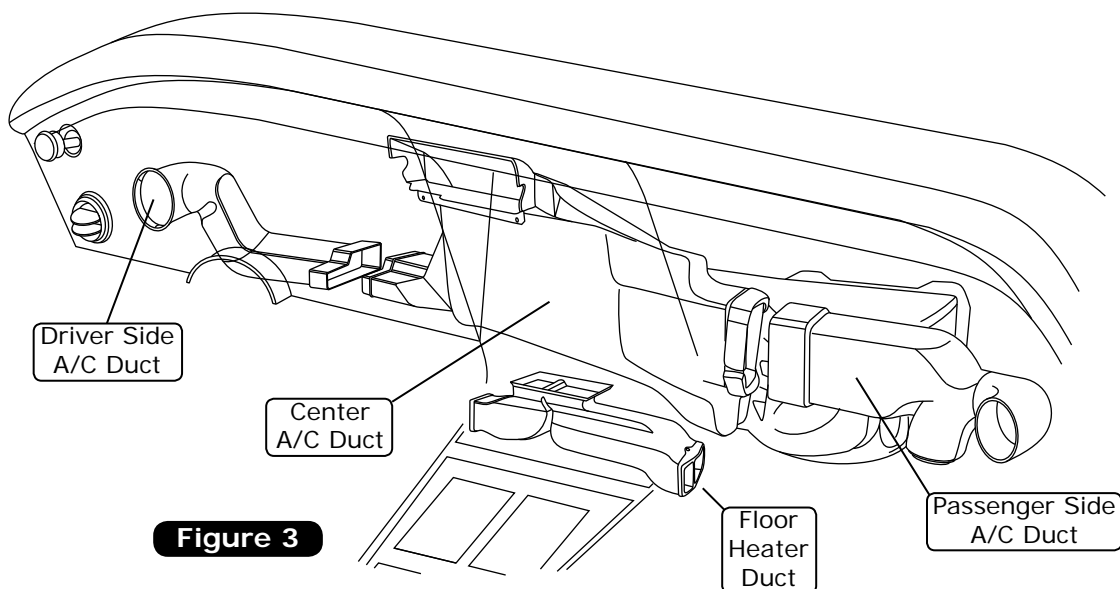

Figure 3
7. Remove the passenger side, center and driver side A/C ducts as shown in Figure 3, below (discard).